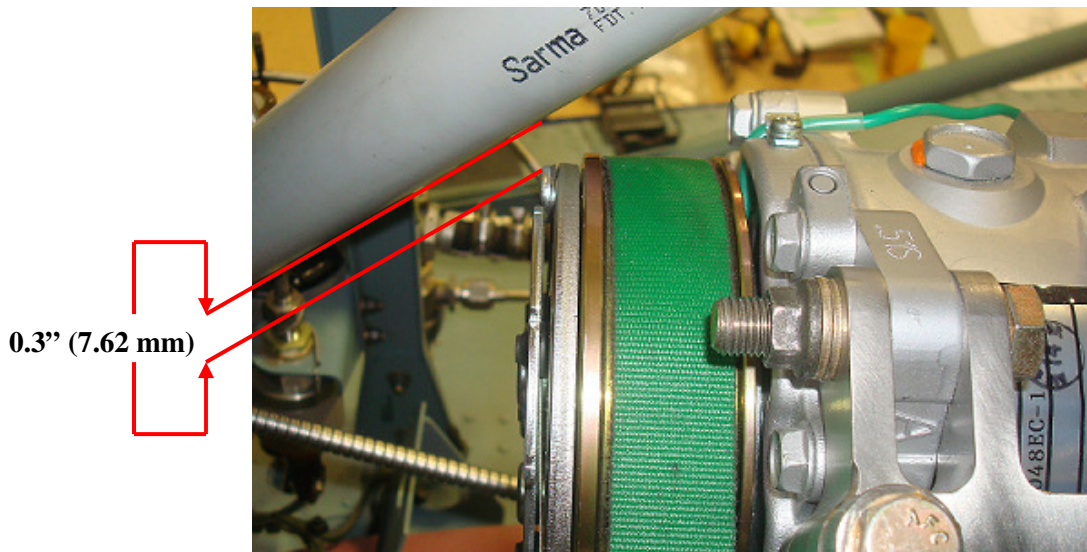

Figure 1 Compressor to Transmission Support Tube Clearance
1. Locate the S-3048EC-1 compressor assembly and inspect for a minimum of 0.3” (7.62 mm) clearance between the L/H transmission support tube and the face of the S-3048EC-1 Compressor Pulley (See fig 1).